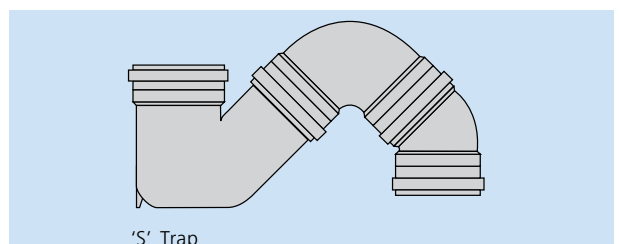

Fig. 22
- Use 4DG90 Gully Trap with 4D23D Bend 871/2° and 4D25 Bend 45° (Fig. 22)